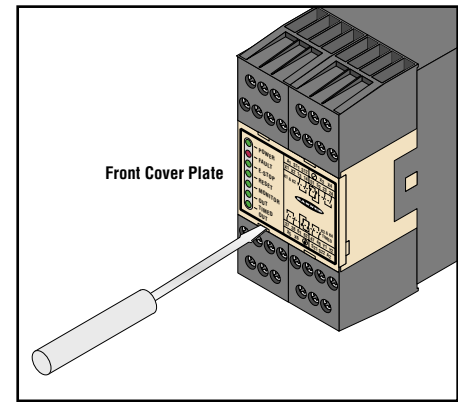

Figure 7. To remove the Module's terminal strips, insert a small screwdriver blade into each of the four slots at the top and bottom of the front cover.
12. If the complete Safety Module must be replaced, the modular terminal strips may easily be removed for quick installation into another module. To remove the terminal strips, first replace the Safety Module front cover. Then insert the blade of a small screwdriver into one of the four depressions in the Safety Module front cover and pry them loose; see Figure 7.